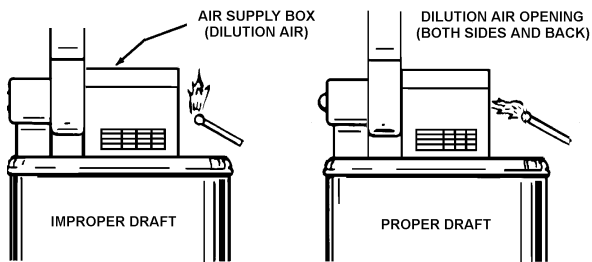

FIGURE 11
C. "CHECKING THE DRAFT." Operate the water heater for several minutes and check to see if it is venting properly by passing a lit match or paper near the opening of the Air Supply Box. If the draft is proper, the match flame will be drawn into the Air Supply Box (fig 11). If not, the combustion products will tend to extinguish the flame. If an improper draft exists, do not operate the water heater until proper adjustments or repairs are made to provide adequate draft through the gas vent.